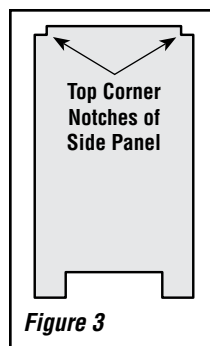

Figure 3
- Hold panel with top corner notches UP, (see **Figure 3**).